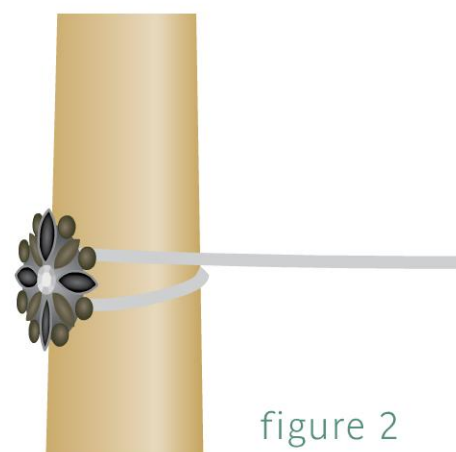

figure 2
- 3 Pull one end of the wire, then the other, keeping the length of both wire ends as equal as possible. Place the ring on the mandrel at one size larger than you want your final ring size to be and continue to pull one end of the wire, then the other (Figure 2).